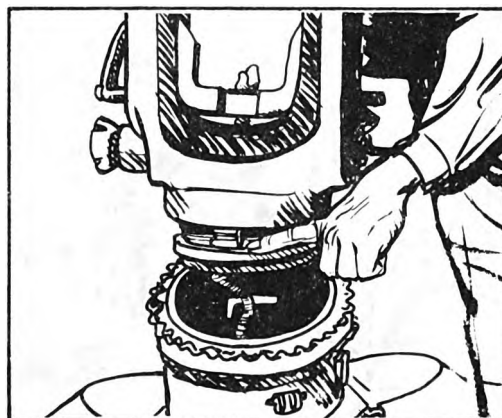

Figure 7. Azimuth lock indicators.
- b. Locate the azimuth lock indicators on the base of the traversing unit (figure 7). Position the indicators so they are 180 degrees from the direction of fire.